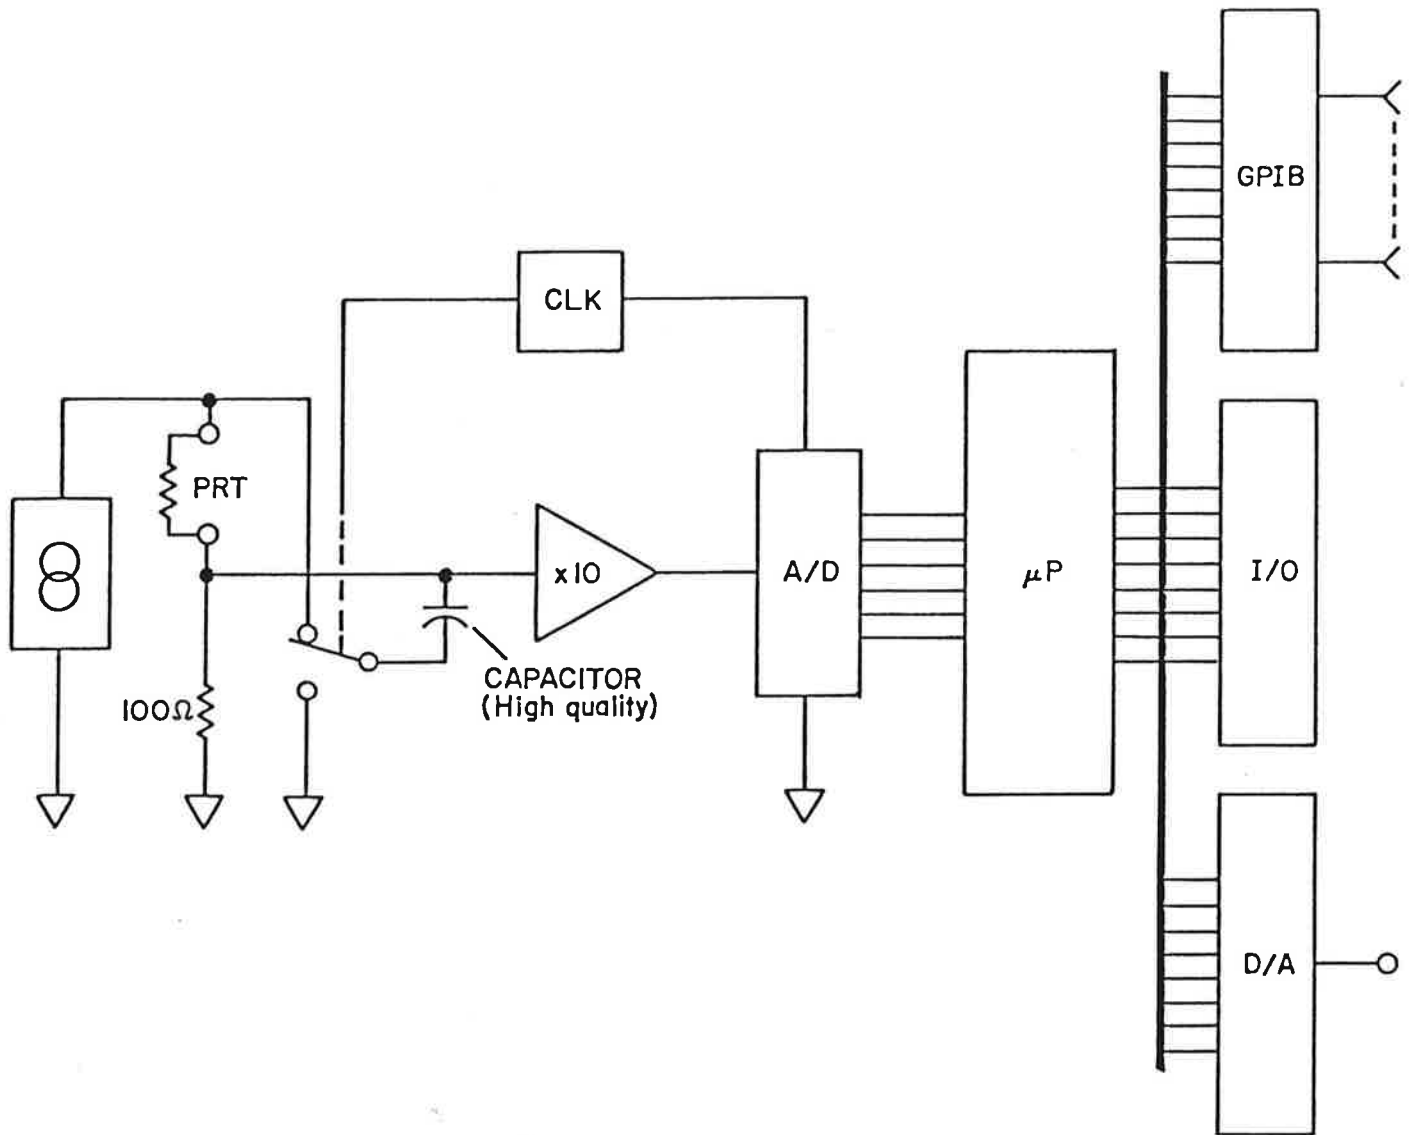

Fig. 3-1 FUNCTIONAL DESCRIPTION
3.2 Functional Description (Fig. 3-1)